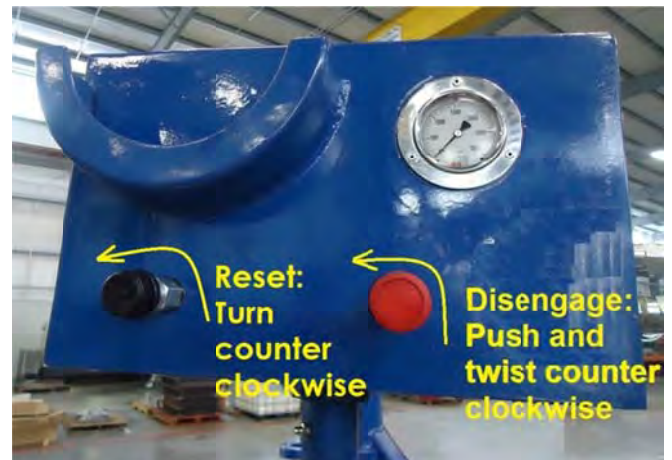

Figure 4
2. Disengage brake (if used) by pressing and turning red button counterclockwise and reset pressure setting by turning black knob counterclockwise. See Figure 4